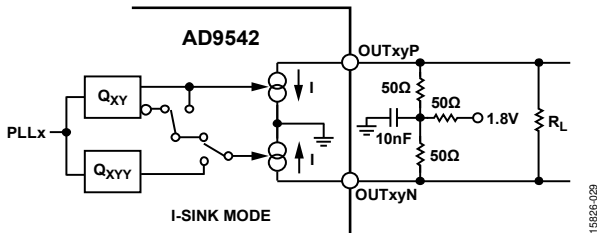
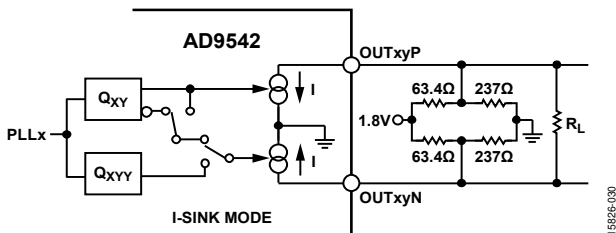

Figure 34. LVDS-Compatible Output, 1.24 V Common-Mode, T Network ($I = 7.5 \text{ mA}$; $I = 15 \text{ mA}$ With Extra 100Ω Termination, R_L)
Figure 35. LVDS-Compatible Output, 1.2 V Common-Mode, Thevenin Bias Network ($I = 7.5 \text{ mA}$; 15 mA With Extra 100Ω Termination, R_L)
- The 15 mA mode produces a voltage swing and is compatible with LVPECL. If LVPECL dc signal levels are required, the designer must ac couple and rebias the AD9542 output. The 15 mA mode can also be used with the termination scheme shown in Figure 34 and Figure 35 to produce an LVDS signal with the correct LVDS dc bias.